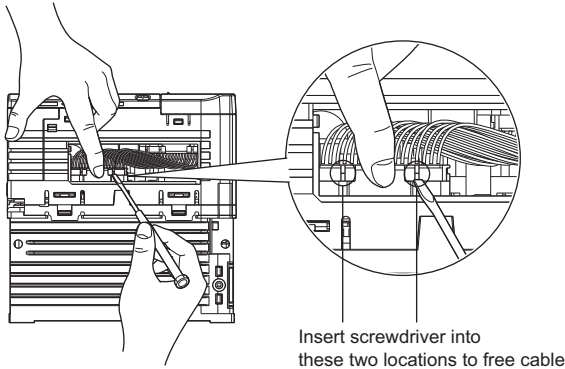

Figure 9 Unplugging the Drive Cable Connection (PS-V10S)
1. Unplug one end of the existing drive cable from its socket inside the drive as shown in **Figure 9**. Press inward on the cable release tab in the center of the cable connector and use a flat-blade screwdriver to gently pry up to remove the connector from its socket.